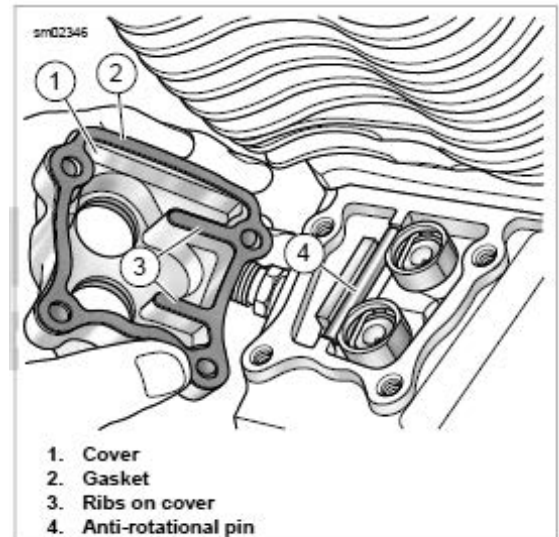

Figure 3-83. Installing Lifters
2. See Figure 3-83. Place the anti-rotational pin (4) on the machined flat between the blocks cast into the crankcase.